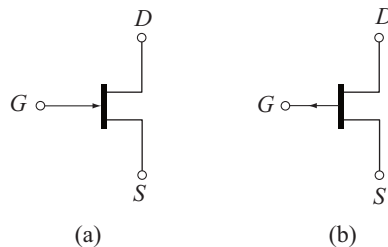

Fig. 9.1 (a) Circuit symbol of n -channel FET
Figure 9.1 shows the circuit symbols of n -channel and p -channel FETs. The three terminals of the FET are Drain (D), Source (S) and Gate (G) which are analogous to the collector, emitter and base of the BJT respectively. In n channel FET, the current flow is due to only electrons whereas in p -channel FET it is due to only holes.